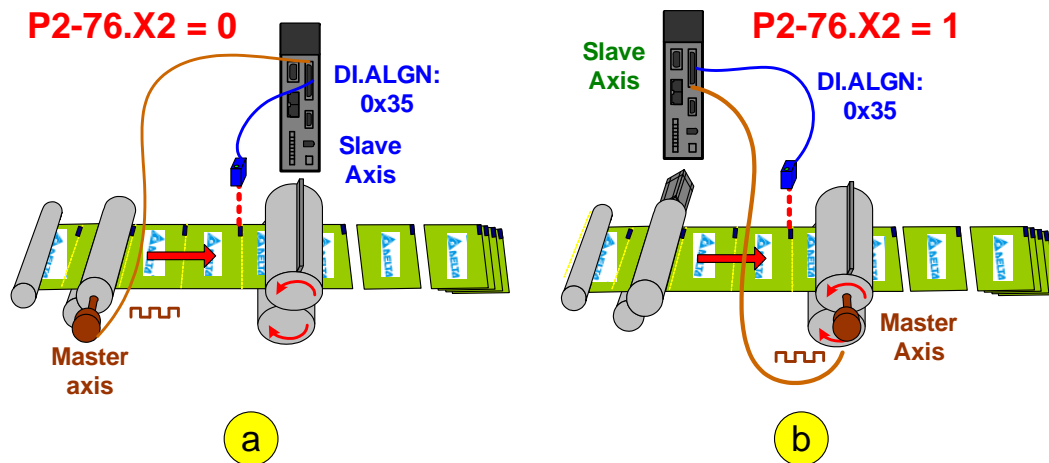

Figure 3.8.12 Mechanisms which can apply the function of cam positioning
- P2-76.X2 is for reading the relation of marks and camshaft. Take figure 3.8.12 as the example. The cutter axis of 'mechanism a' is the slave axis which travels according to the E-cam curve. Film feeding axis with marks is the master axis. The sensor of cam positioning reads the marks on wrapping film which transmits by film feeding axis and transmits DI.ALGN signal to the cutter axis for adjustment. When the slave axis is doing the adjustment, it will not influence the transmission of wrapping film. When applying to this mechanism, please set P2-76.X2 = 1. For 'Mechanism b' in figure 3.8.12, the cutter axis is the master axis and the film feeding axis is the slave axis. Therefore, the film feeding axis travels in accordance with the E-cam curve. DI.ALGN signal needs to be sent to the film feeding axis. When executing cam positioning, the transmission of wrapping film will be influenced by the adjustment. Thus, this application needs to set as P2-76.X2 = 1.